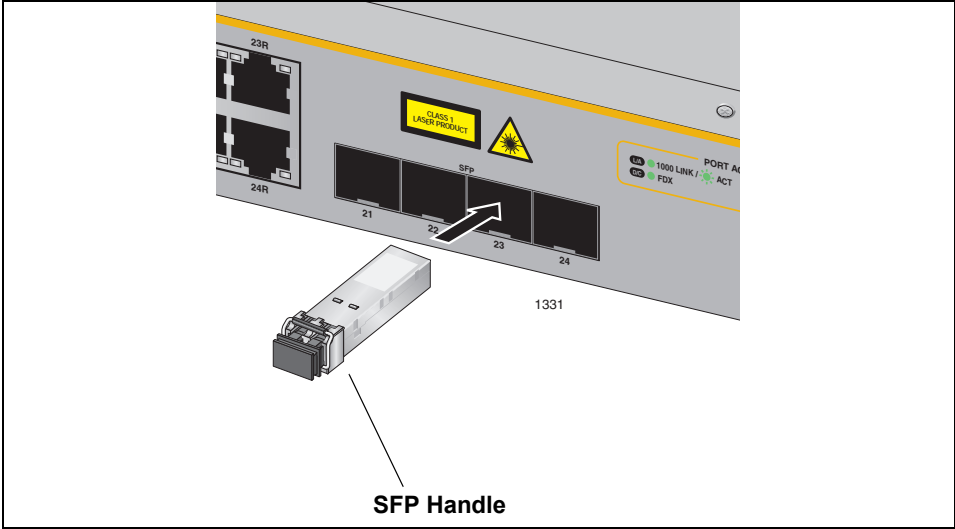

Figure 34. Positioning Handles on the x600-24Ts and x600-24Ts/XP Switches
- 5. For the x600-24Ts and x600-24Ts/XP switches, verify that the handle on the SFP transceiver is in the upright position, as shown in Figure 34, to prevent inadvertently removing the transceiver.